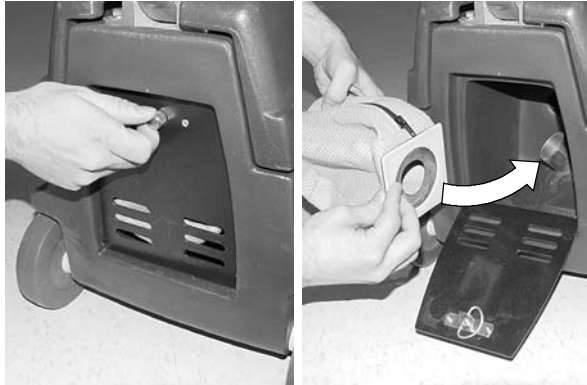

FIG. 3
1. Open the dust bag compartment at rear of machine by the the knob counter-clockwise (Figure 3).
2. Slide the dust control bag collar over the intake tube as shown. Prior to operating, always check that an empty dust bag is installed (Figure 3).